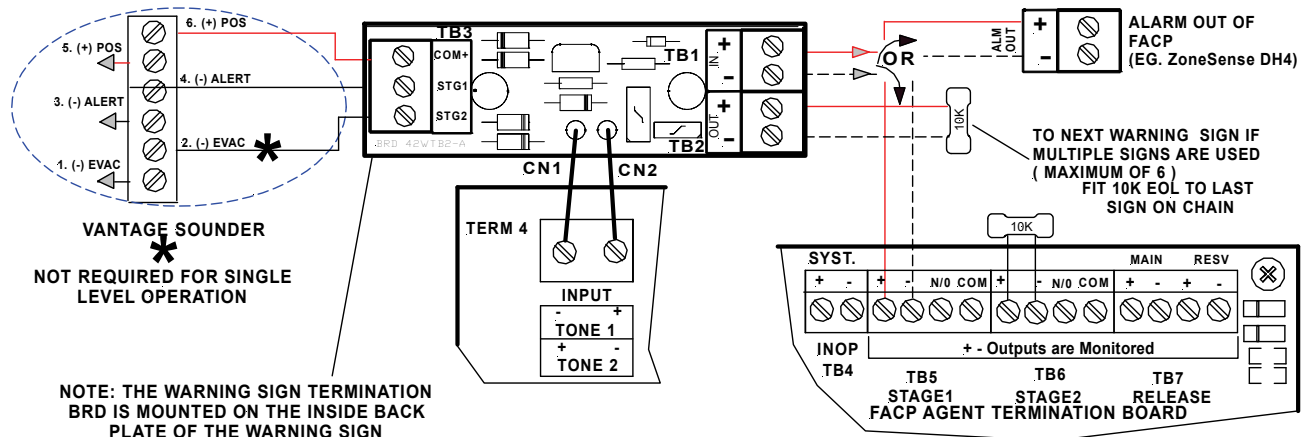

Figure 2: General Wiring of the Warning Sign connected to AMPAC's series of FACP or Agent Termination Card
An external Vantage sounder (Item No.205-0062 / Red, 205-0063 / White) or the Vantage Combi (205-0066 / Red, 205-0067 / White) can also be connected to TB3 on the Warning Sign Termination Board as shown in Figure 2.
6. Cable for the configuration as per Figure 2